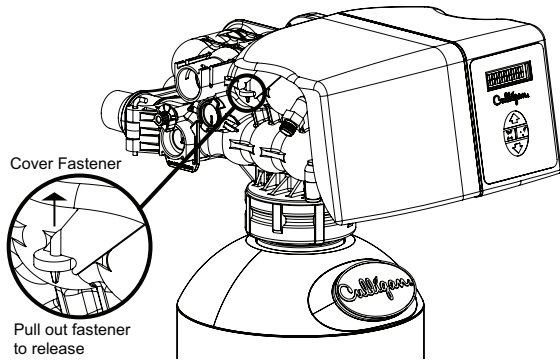
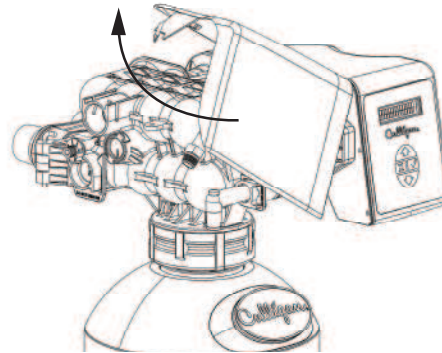

Figure 6. HE softener cover fastener clip.
Figure 7. Removing the HE softener cover.
Refer to Figure 6 through Figure 8, Table 2, and instructions below to replace the backwash flow control.
1. Remove the cover by releasing the cover fastener from the control valve. See Figure 6 and Figure 7.